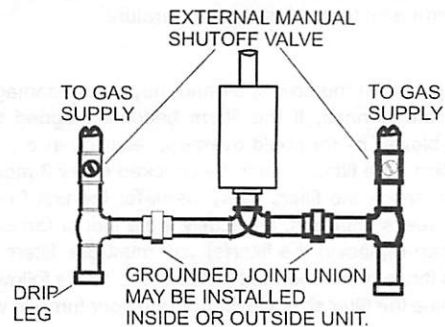

FIGURE 5: Upflow Gas Piping
*Should overheating occur, or the gas valve fail to shut off, turn the external manual gas valve in the gas supply line to the furnace to the "off" position and let the furnace cool off before shutting off the electrical power supply. Refer to Figure 5 or 6.*